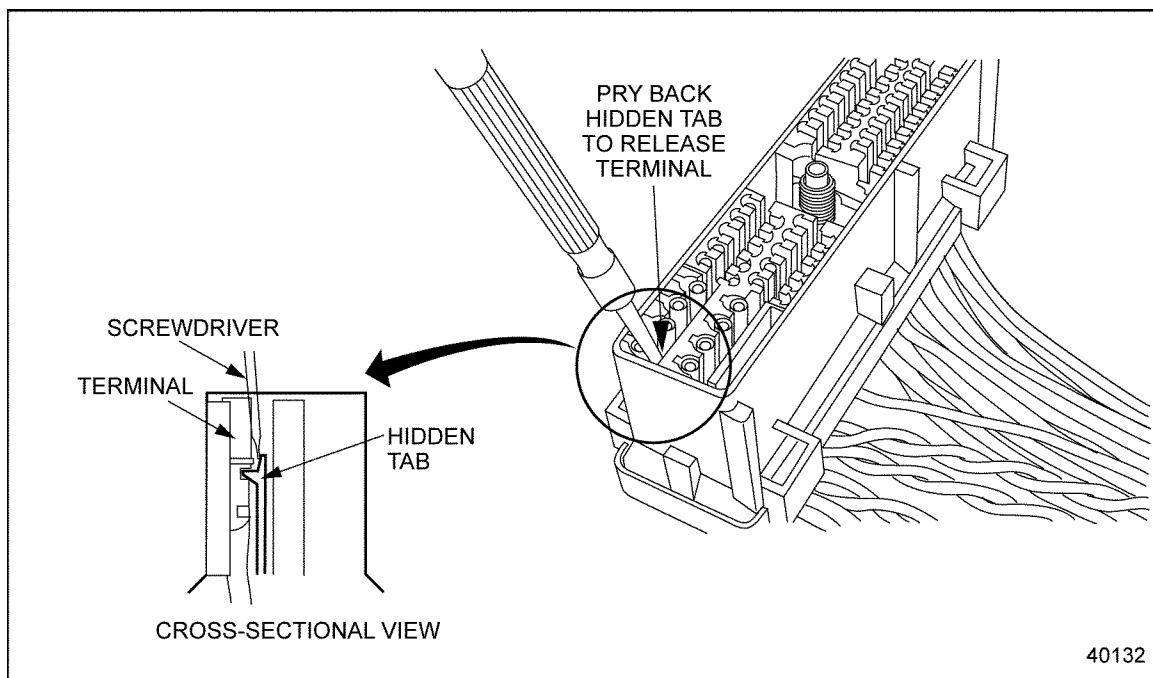

Figure 16-26 Removing the Terminal
4. Use the screwdriver to gently pry back the tab holding the terminal (see Figure 16-26).